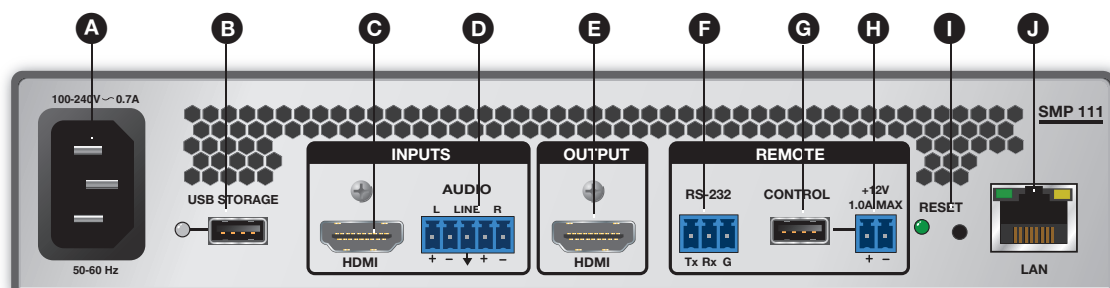
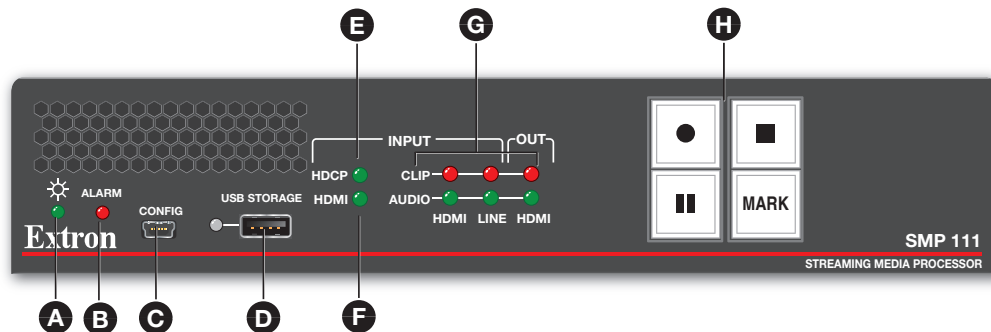

Figure 3. SMP 111 Rear Panel
Figure 7. SMP 111 Front Panel
The SMP 111 can be configured and controlled from the rear panel RS-232 captive screw port (see figure 3, F on page 12), the front panel mini USB B Config port (see figure 7, C on page 17), or the LAN port (see figure 3, J) using SIS commands and DataViewer via Telnet port 23. It can also be configured and controlled using a standard web browser from the LAN port. Because the LAN port must be connected for streaming output, Extron recommends using it for configuration, control, and firmware upgrades.
- C HDMI input** — Connect an HDMI (or DVI with suitable adapter) source device to input (see figure 3 on page 12).
The **Reset** button on the rear panel of the SMP 111 (see figure 3, ❶ on page 12) returns the SMP 111 to various modes of operation. There are three unit reset modes (numbered 1, 4, and 5) that are initiated from the rear panel reset button. To select different reset modes, use a pointed stylus or small screwdriver to press and hold the **Reset** button while the SMP 111 is powered or press and hold the **Reset** button while applying power to the SMP 111.
- D USB type A port for external storage** (see figure 7 on page 17)— Connect a USB compatible media device to this port. The green LED blinks during both reading and writing of data. The storage device can be any standard external hard drive or USB flash drive formatted with a compatible file system.